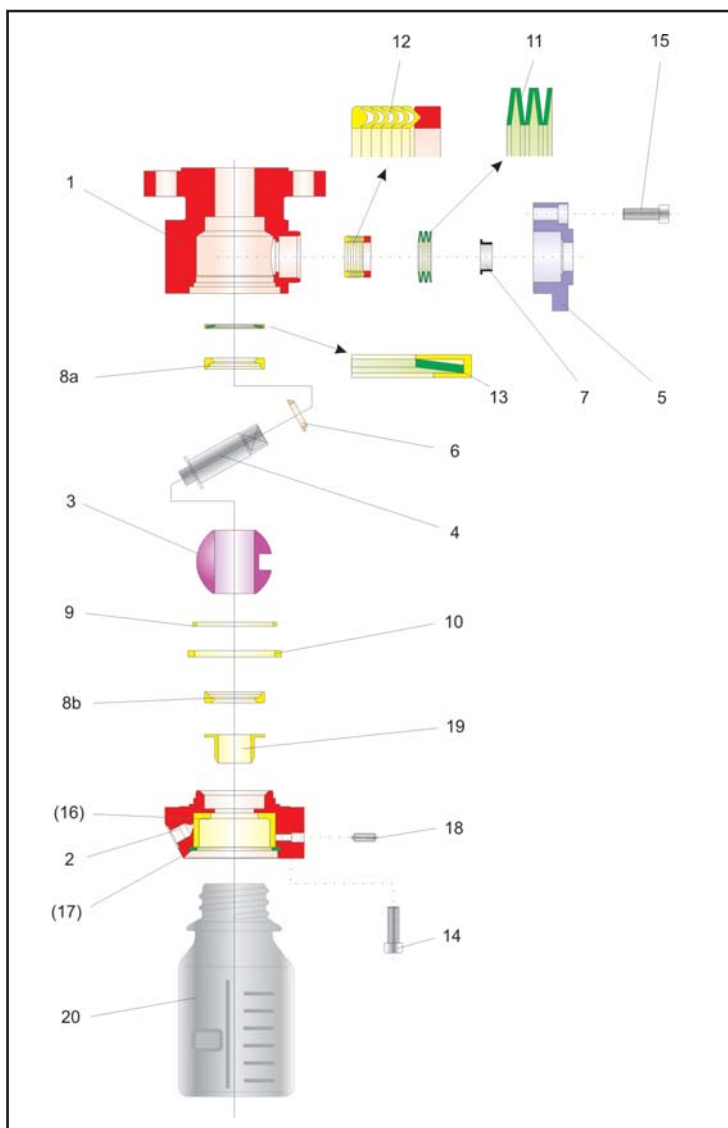

Fig. 3 - Explosion drawing of the sampling valve series 27k
Note: The position and arrangement of the individual parts shown in the explosion drawing (fig. 3) must be strictly adhered to when assembling the valve.
The assembly starts with the main body (1). Insert the lined spring washer (13) into the main body (1). The assembly position can be taken from the drawing (Fig. 3).
Refer to the explosion drawing (Bild 3) for exact positioning of the V-rings.
The spring washers (11) are placed on the packing. The positioning of the spring washers can also be taken from the explosion drawing (Bild 3).